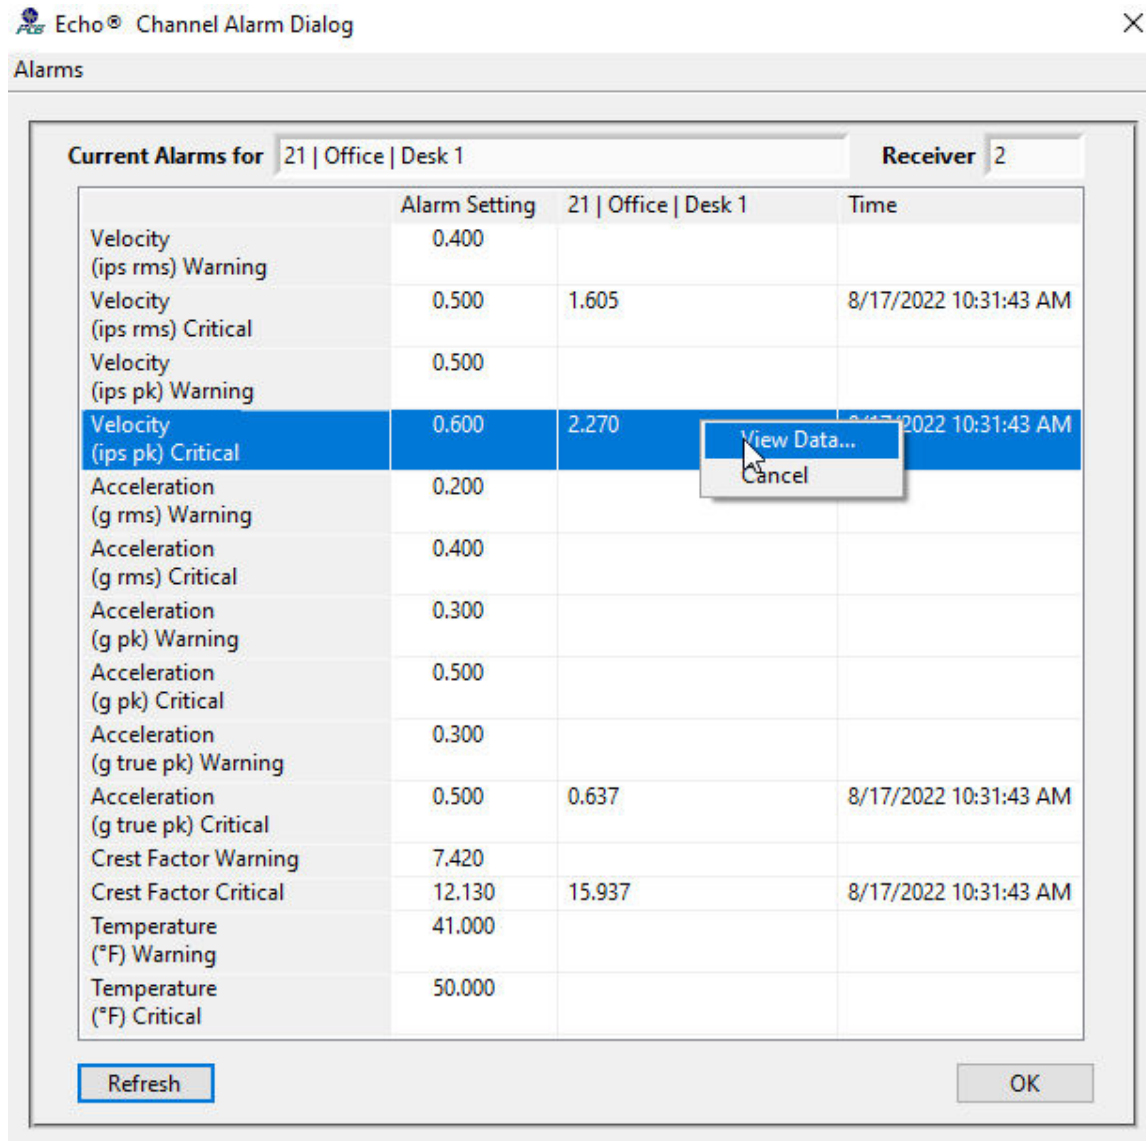

Figure 129 – Echo® Channel Alarm Dialog
- **View Alarms...** brings up the screen (Figure 129)